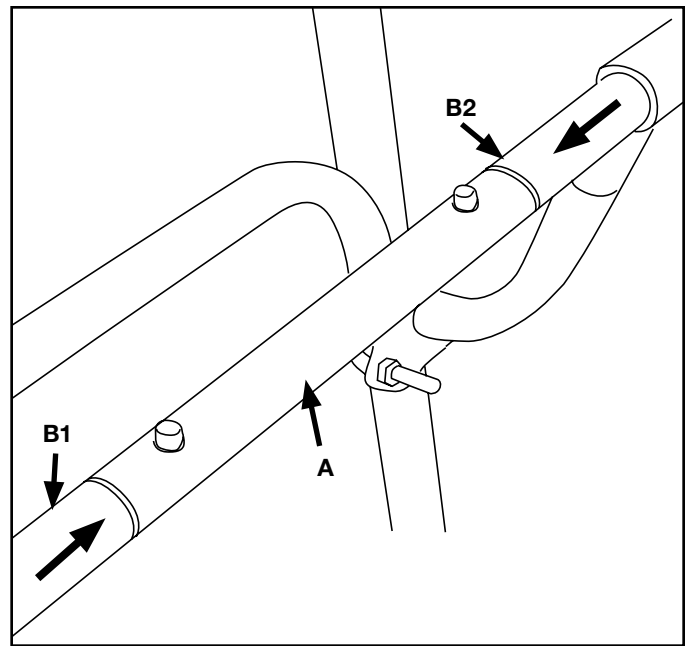

Fig. 5
INSTALL THE CENTER AND SIDE MOUNTING BARS (FIG. 5)
5. Slide side mounting bars [B1, B2] through each upper mounting post. Connect the center mounting bar [A] to both side mounting bars by engaging the spring loaded pins as shown. (Fig. 5)